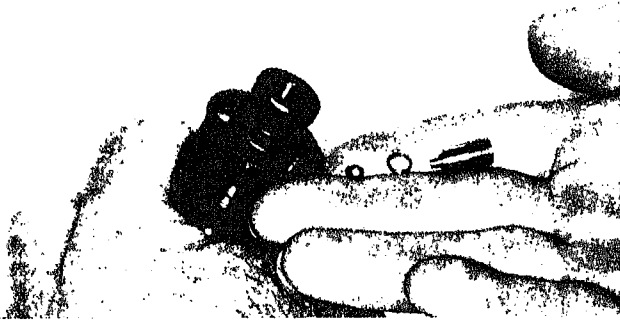

Fig. 6-1-26. Installing ball into injector body
1. On PT (type B) drop check ball into bore at top of injector body. Install ball retainer with new gasket, and tighten to 50 inch-pounds maximum torque. Fig. 6-1-26. Refer to Page 6-1-18 for seating check, improper seating may result in "engine missing or slow shut-down" complaints.